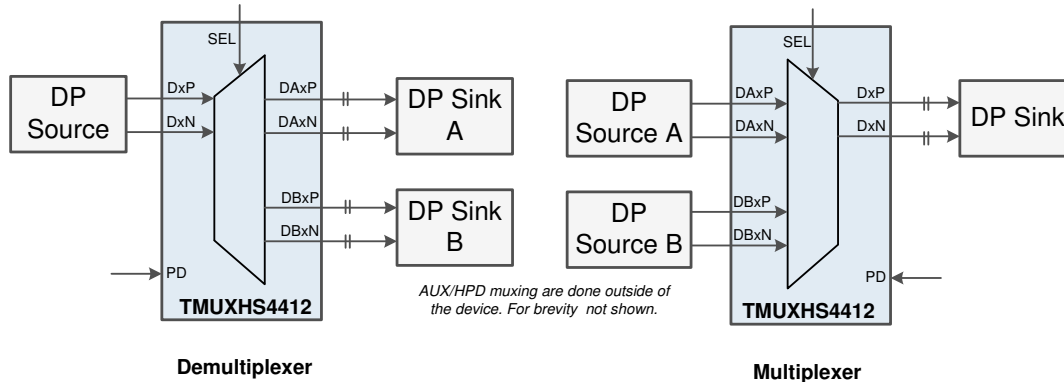

Figure 7-9. DisplayPort Main Link Demuxing/Muxing
Figure 7-9 shows an application block diagram to implement DisplayPort (DP) main link switch either in mux or demux configuration. Note DP link also has sideband signals such as Auxiliary (AUX) and Hot Plug Detect (HPD) which must be switched outside of this device.